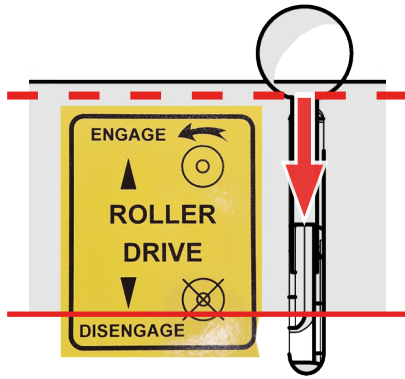

Fig.9C - Disengage the drive lever.
6. To **stop**, pull the Drive Lever towards the rear to the 'disengage' position (Fig.9C)